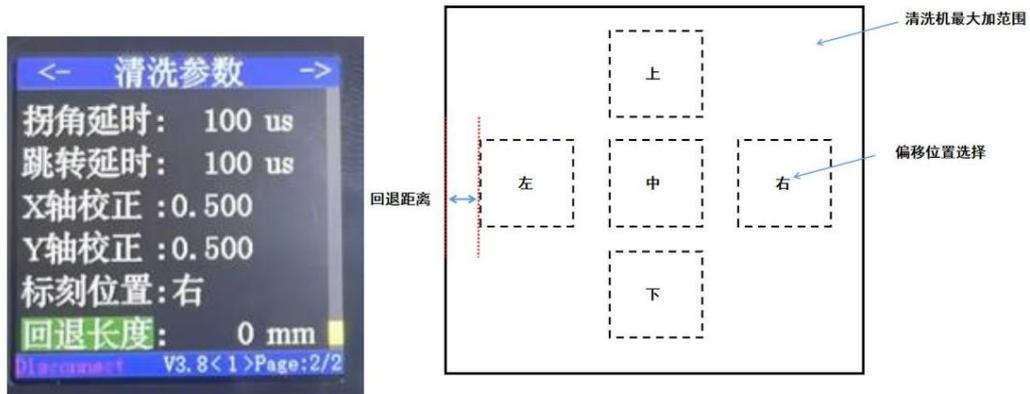

Figure 27 Introduction to offset marking function
2. Use JPT cleaning card with offset marking function. As shown in Figure 27, adjust the marking position. The default marking position is in the vibrating position.